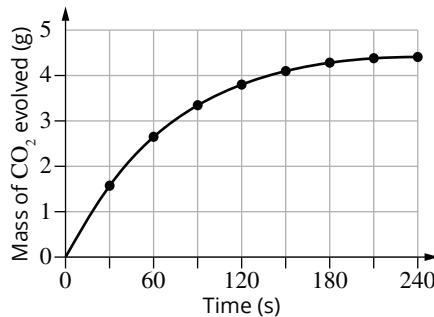

FIGURE 7.1.8 The mass of carbon dioxide produced in a reaction between nitric acid and marble chips.
- The graph in Figure 7.1.8 shows the mass of carbon dioxide gas produced during a 4-minute period of a reaction between marble chips (calcium carbonate) and 1.0 M nitric acid.